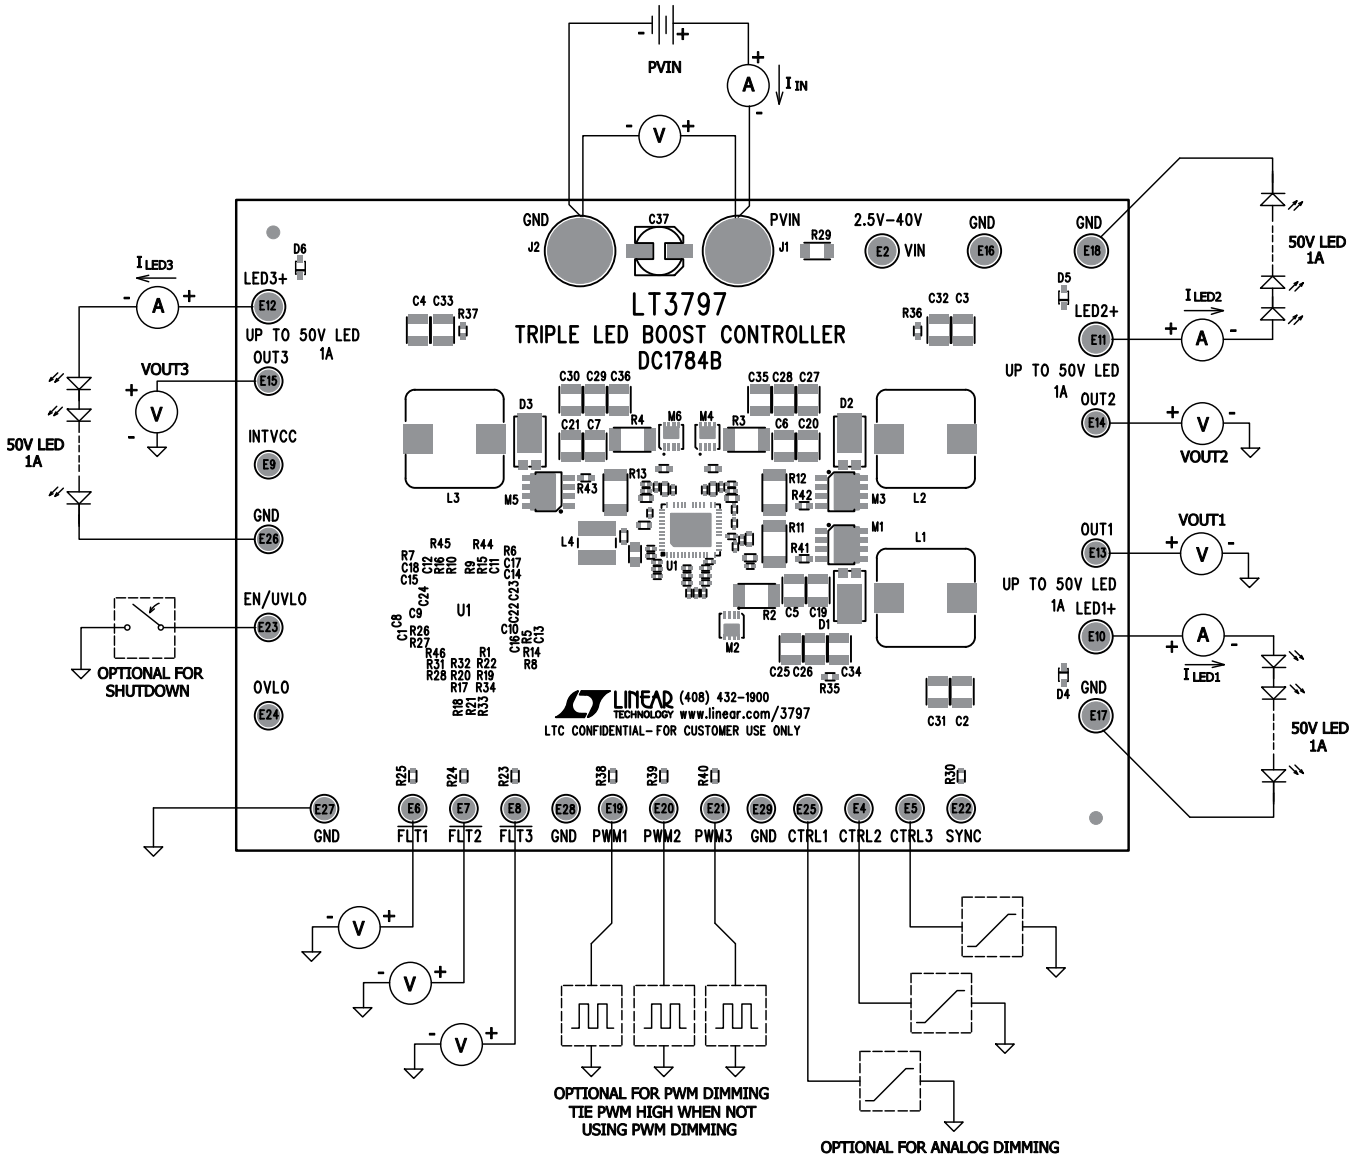

Figure 1. Test Procedure Setup Drawing for DC1784B
1. Connect three strings of LEDs that will run with forward voltage less than 50V (at 1A), but greater than PVIN, to the LED+ and GND terminals on the PCB as shown in Figure 1.